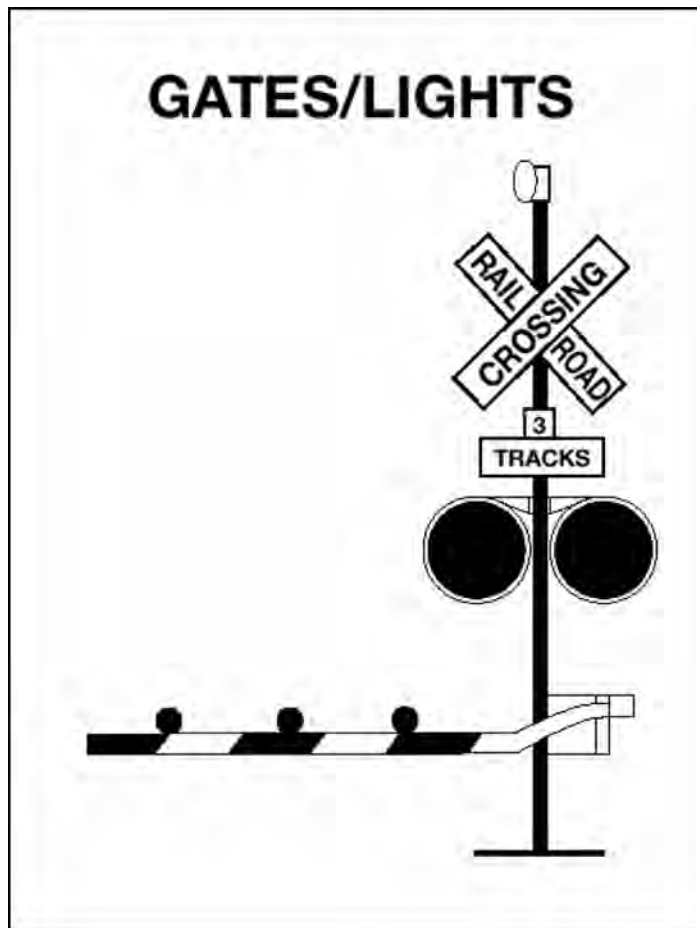

Figure 10-8
**Flashing Red Light Signals.** At many highway-rail grade crossings, the crossbuck sign has flashing red lights and bells. When the lights begin to flash, stop! A train is approaching. You are required to yield the right-of-way to the train. If there is more than one track, make sure all tracks are clear before crossing. See Figure 10.8.
**Gates.** Many railroad-highway crossings have gates with flashing red lights and bells. Stop when the lights begin to flash and before the gate lowers across the road lane. Remain stopped until the gates go up and the lights have stopped flashing. Proceed when it is safe. If the gate stays down after the train passes, do not drive around the gate. Instead, call your dispatcher. See Figure 10.8.